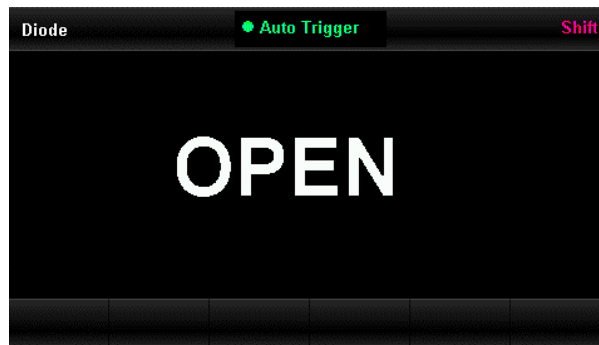

Figure 2-25 Interface of diode measurement
- 1) Press **Shift** button and then press **Diode** button to enter interface of diode measurement as Figure 2-25.